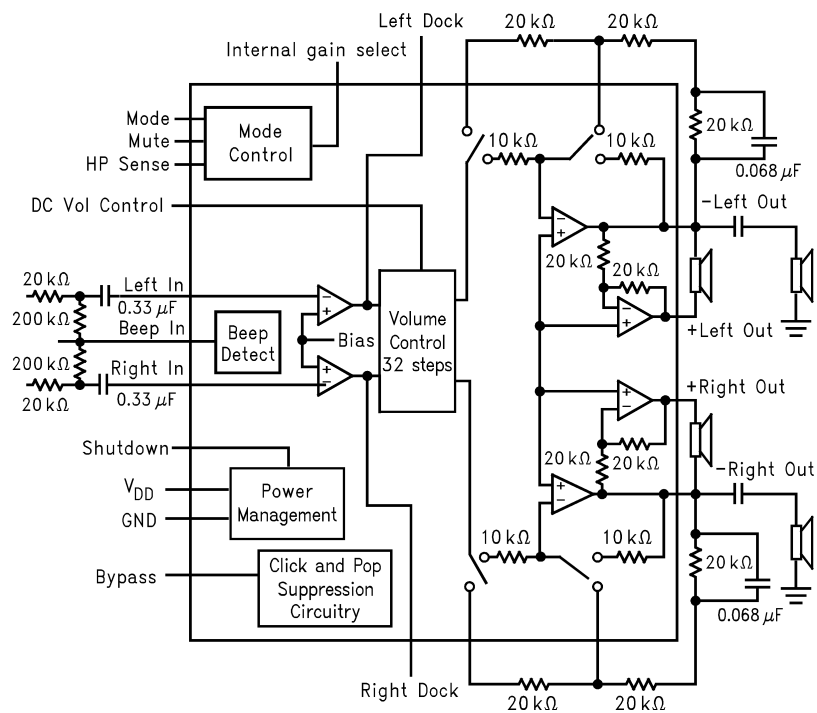

Figure 1. LM4838 Block Diagram
- (1) All voltages are measured with respect to the ground pins, unless otherwise specified. All specifications are tested using the typical application as shown in Figure 1.
- (2) *Absolute Maximum Ratings* indicate limits beyond which damage to the device may occur. *Operating Ratings* indicate conditions for which the device is functional, but do not ensure specific performance limits. *Electrical Characteristics* state DC and AC electrical specifications under particular test conditions which ensure specific performance limits. This assumes that the device is within the Operating Ratings. Specifications are not ensured for parameters where no limit is given, however, the typical value is a good indication of device performance.
- (3) Typicals are measured at $25^\circ C$ and represent the parametric norm.
- (4) Limits are specified to TI's AOQL (Average Outgoing Quality Level). Datasheet min/max specification limits are ensured by design, test, or statistical analysis.